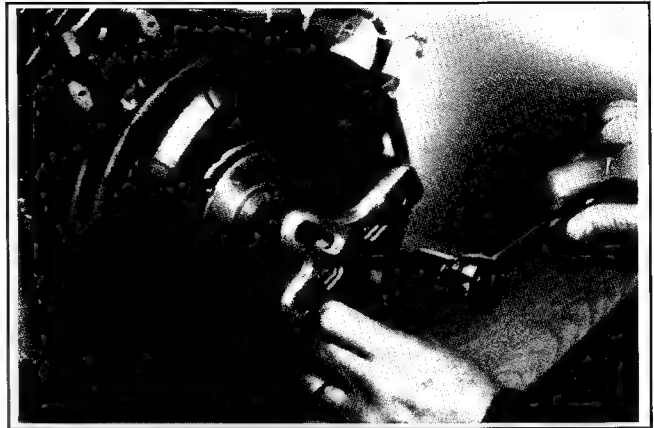

Figure 9-17. Using Puller to Remove Flywheel.
2. Use a flywheel puller to separate flywheel from crankshaft taper. See Figure 9-17.